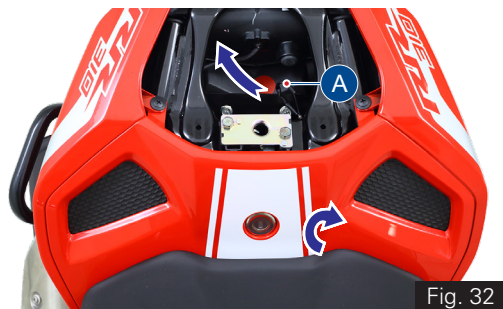

Fig. 32
- Pull the seat release cable (A) to release the seat lock (ref. Fig. 32).